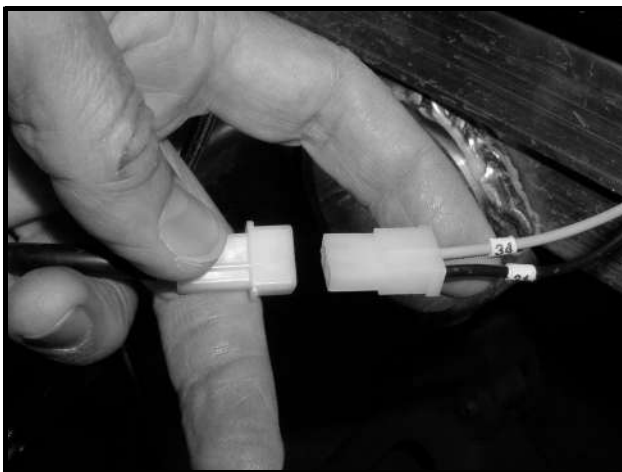

Figure 14-10 Differential Clutch Connector
9. Disconnect the electric clutch line from the differential at the connector behind the splash guard (Figure 14-10, Page 14-5). See following NOTE.
4. Connect the electric clutch line to the connector behind the splash guard (**Figure 14-10, Page 14-5**).